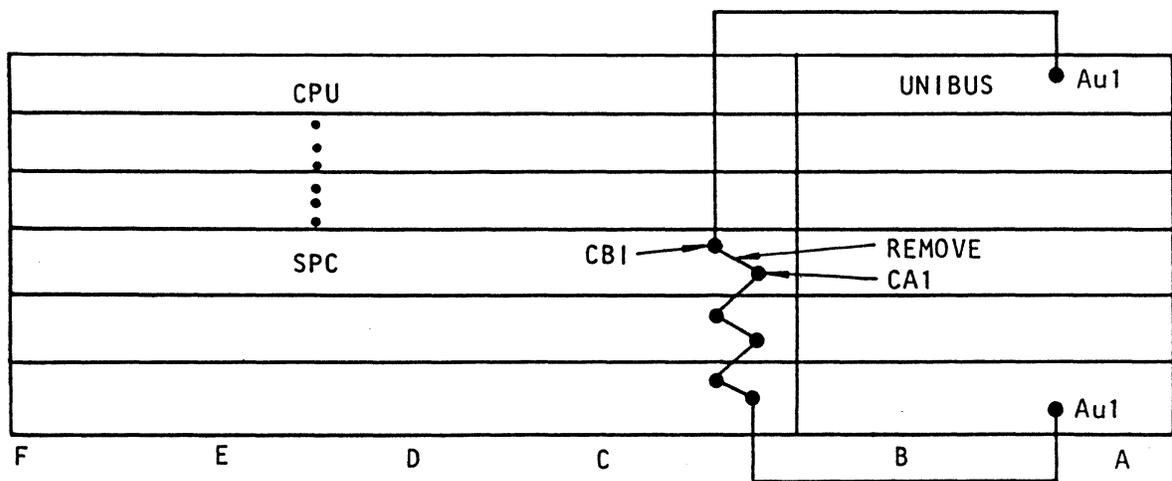

Figure 2-6. Removal of Nonprocessor Grant Signal
- c. Insert the WINC-08 Unibus interface card into the next available quad-wide small peripheral controller (SPC) slot. The WINC-08 is a DMA device so the Nonprocessor Grant Signal (NPG), wired to the SPC slot, must be broken. Break the connection (using a wire-unwrap tool) between pin CA1 and CB1 on the back panel corresponding to the slot in which the WINC-08 interface card resides (see Figure 2-6).